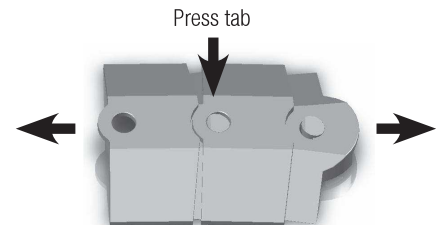

Figure 4: Press tab in and pull apart
- Push top tab in with screwdriver, or other blunt object, and slide segments apart as shown in Figure 4